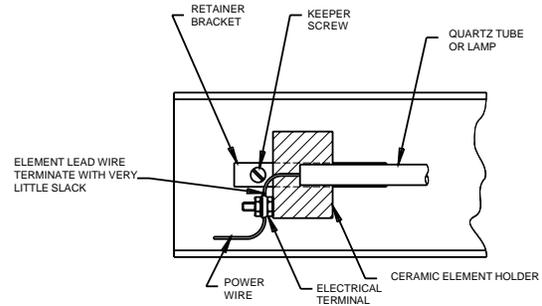

FIG. 2 – TYPICAL WIRING ATTACHMENT OF QUARTZ HEATER
16.0 Follow this procedure and Fig. 2 when installing the tube or lamp: